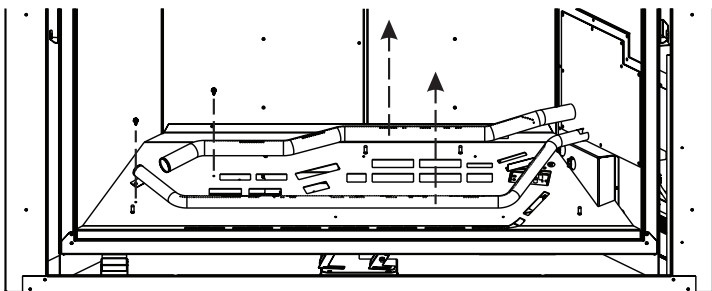

Figure 2
3. Remove front and rear burners by removing screws on left and pulling out towards left side. **See Figure 2.**